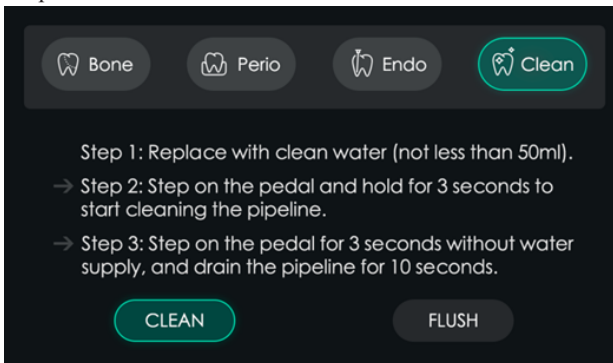
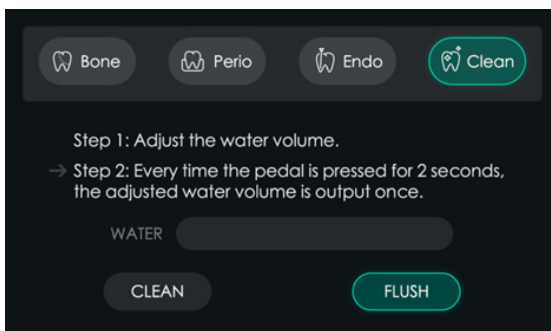

Fig.12
Fig.13
As shown in Figures 12 and 13, when the mode name "Clean" is selected in the green frame, the device is in the cleaning mode; in this mode, the device has only the water output function and no ultrasonic vibration is output; it is divided into the "cleaning mode" and "Flush Mode". "Clean mode" shown in Figure 12, is used to flush the pipeline with clean water after the operation; "Flush mode" shown in Figure 13, can adjust the output of quantitative water each time you step on the pedal.
7.2.5 FLUSH function (Fig.12)